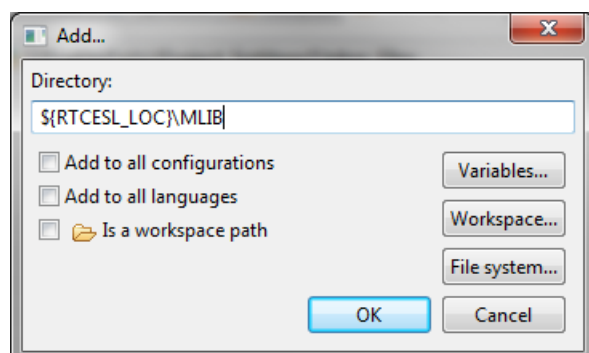

Figure 1-21. Library path inclusion
- Look for the RTCESL_LOC variable by clicking Variables..., and then finish the path in the box by adding the following (see Figure 1-21): `${RTCESL_LOC}\MLIB`.